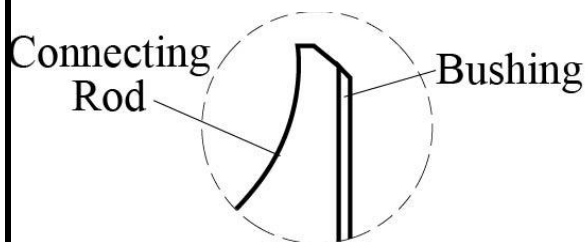

Figure 7
(1) If the chamfer of the connecting rod and the chamfer of the connecting rod bushing align (Figure 7), this feature is acceptable. Go to Step 2 on the next page.